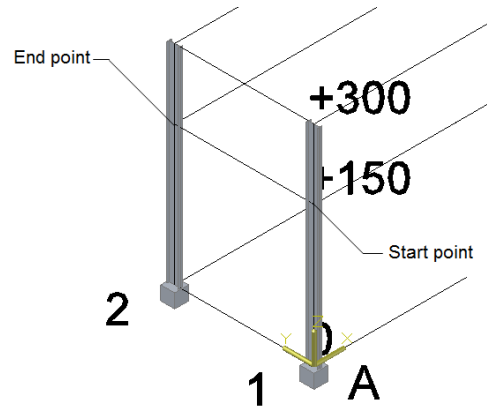
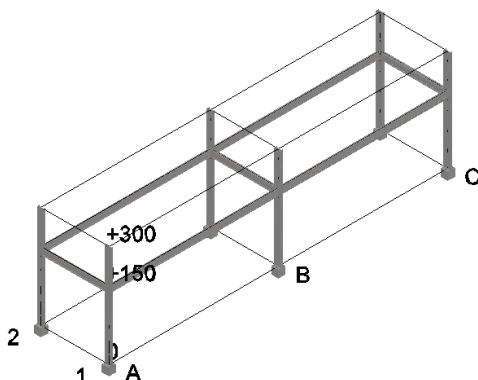

Figure 3-32 The start point and end point of the beam
Figure 3-33 Model after creating the lower level
8. Invoke the **Member** tool; you are prompted to select the start point. Select the start point and the end point, as shown in Figure 3-32; a beam is created between the two selected points and a rubber-band line is displayed between the cursor and the specified point. Also, you are prompted to select the end point of the new member. Similarly, create rest of the beams, as shown in Figure 3-33.